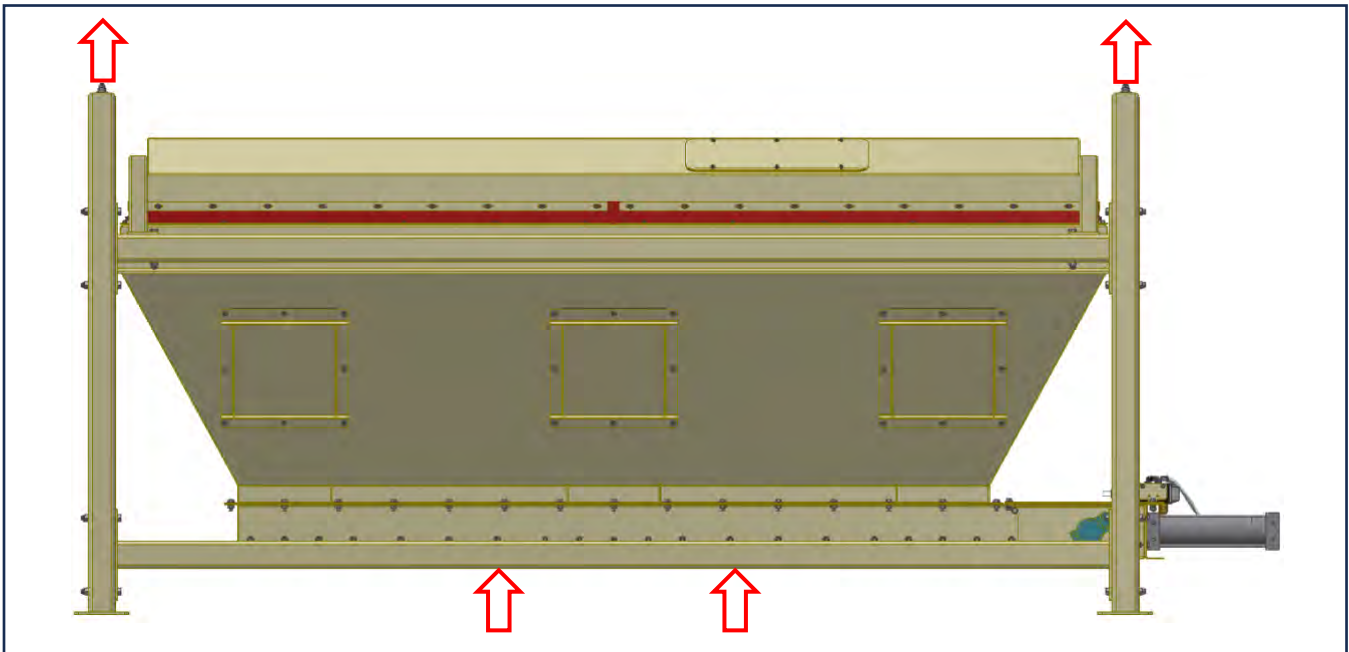

FIGURE 1: Appropriate Lifting Locations on the Scale Hopper Frame
3. Use care when unloading and locating the machine in your facility. Lifting on the lower frame stiffeners near the bottom of the Scale Hopper frame is acceptable if care is taken to avoid hitting the slide gate (Figure 1). Lifting from the end frames in combination with spreader bars is also acceptable if a forklift or similar machinery is unavailable. Avoid putting any loads on the hopper or lid. Avoid sudden jarring or dropping. The approximate dry weight of various size Scale Hoppers is listed in the table in Appendix A for reference to assist in determining the appropriate machinery to use when unloading the Scale Hopper.